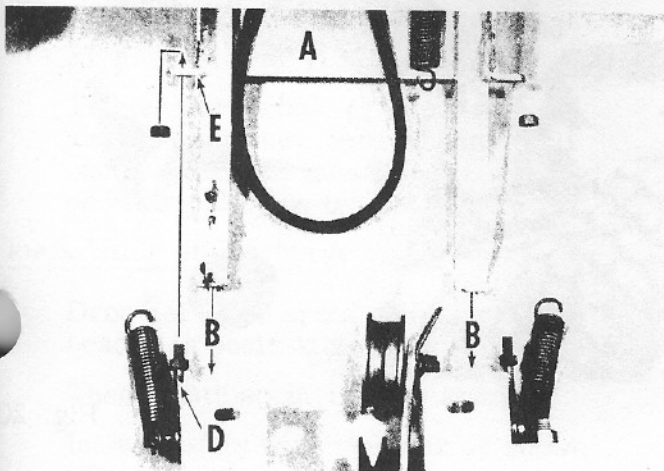

Fig. 10
After checking the carton to make certain that all parts are accounted for, proceed as follows (Fig.10):
Remove 3/8" nut from eye bolt (D) and push mounting bracket completely into the pockets taking care to see that eye bolt (D) is threaded through adjustment bracket (E) as shown in (Fig. 10).
Secure mounting bracket in this position by installing 3/8" hex nut onto eye bolt as shown (Fig. 10).